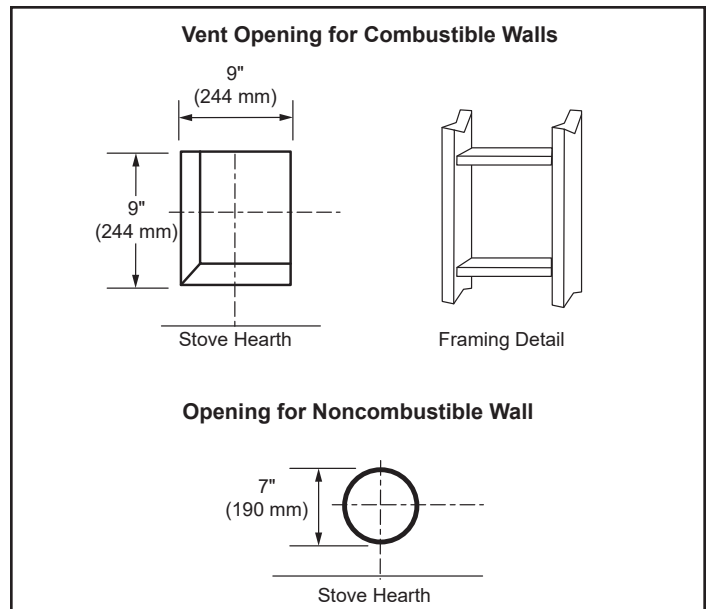

Figure 3.11 - Locate Vent Opening on Wall
1. Locate vent opening on the wall. It may be necessary to first position the stove and measure to obtain hole location. Depending on whether the wall is combustible or noncombustible, cut opening to size, Figure 3.11 (For combustible walls first frame in opening.)
Combustible Walls: Cut a 9" H x 9" W (244 x 244 mm) hole through the exterior wall and frame as shown, Figure 3.11.